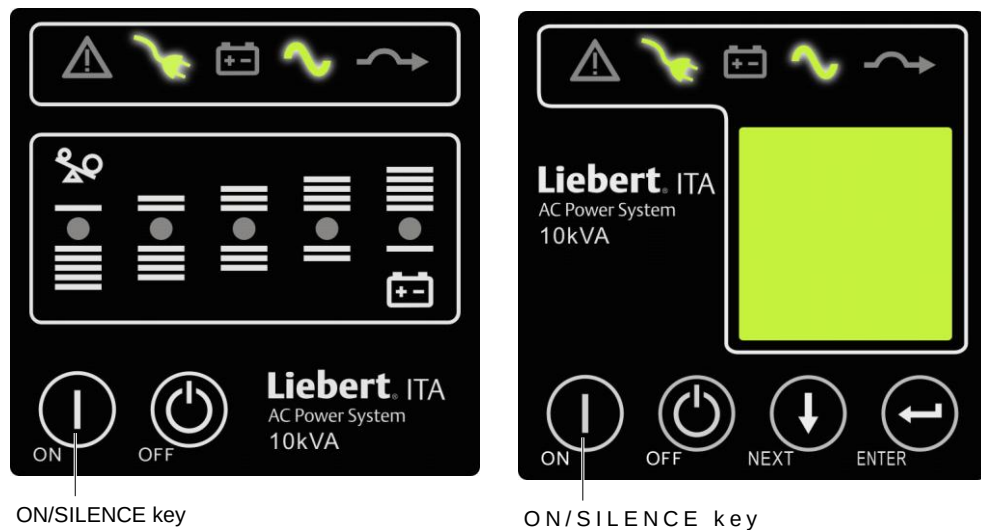

Figure 2-31 Indicator status
3. Press the ON/SILENCE key for more than one second, and wait for about 30 seconds, the UPS will enter the inverter standby mode automatically, at this time, the inverter indicator blinks. After the UPS has output, the inverter indicator will turn on, as shown in Figure 2-31.